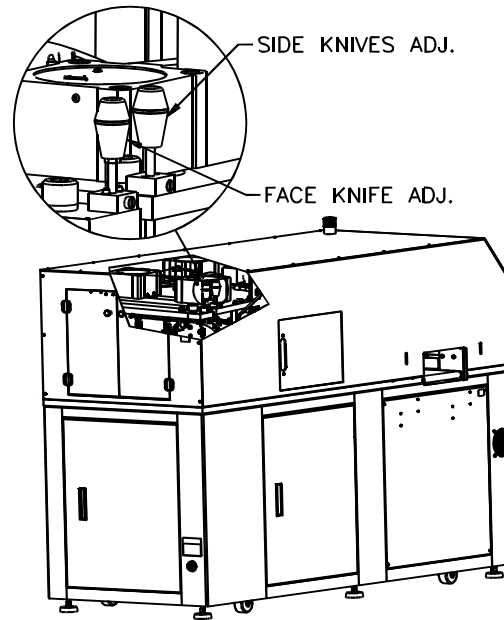

Figure 4-14. Knife Adjustment Knobs
4. Find the face knife adjustment knob in the upper right-hand corner of the opening as shown in Figure 4-14.